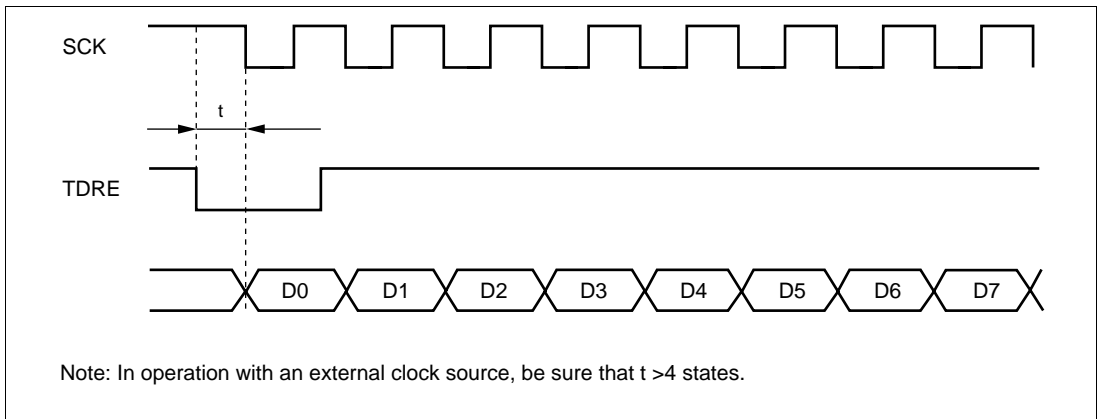

Figure 12.22 Example of Synchronous Transmission
- When an external clock source is used for the serial clock, after updates TDR, allow an inversion of at least five system clock (ϕ) cycles before input of the serial clock to start transmitting. If the serial clock is input within four states of the TDR update, a malfunction may occur. (See figure 12.22)